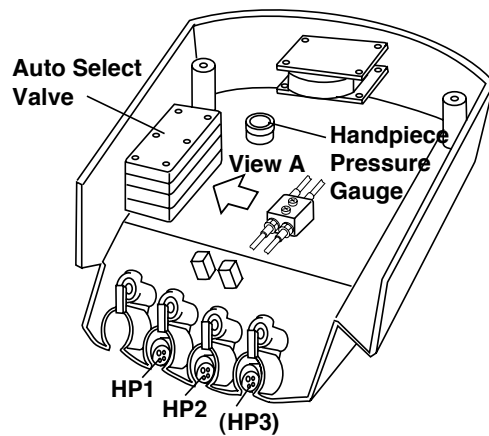
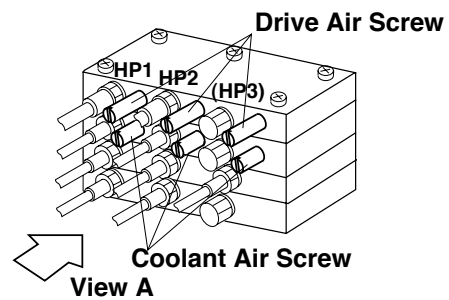

Fig. 3-6 Auto Select Valve and Pressure Gauge
Fig. 3-7 Auto Select Valve
(4) Handpiece Drive Air Adjustment Screws (Fig.3-6 & Fig.3-7)
Setting The Optimum Condition (Fig.3-7)
(5) Handpiece Coolant Air Adjustment Screws (Fig.3-6 & Fig.3-7)